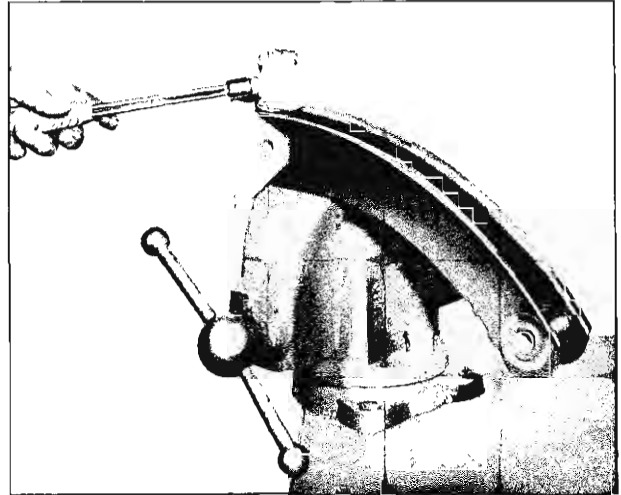

Fig. 28—Installing Upper Control Arm to Control Arm Bracket
4. Tap the front of the upper control arm into the control arm bracket (fig. 28). Install the bolt, lock-washer and nut but do not tighten.